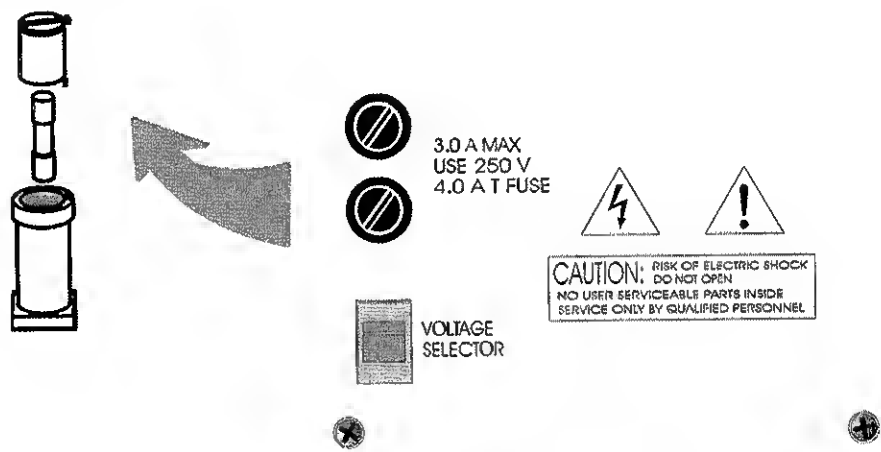

Figure 5-3: Removing Fuse Cap and Fuse from Holder
2. Place a small screwdriver in the notch in the fuse holder cap, push in, and rotate 1/4 turn. The cap will pop out a few millimeters. Pull out the fuse holder cap and fuse, as shown in Figure 5-3.